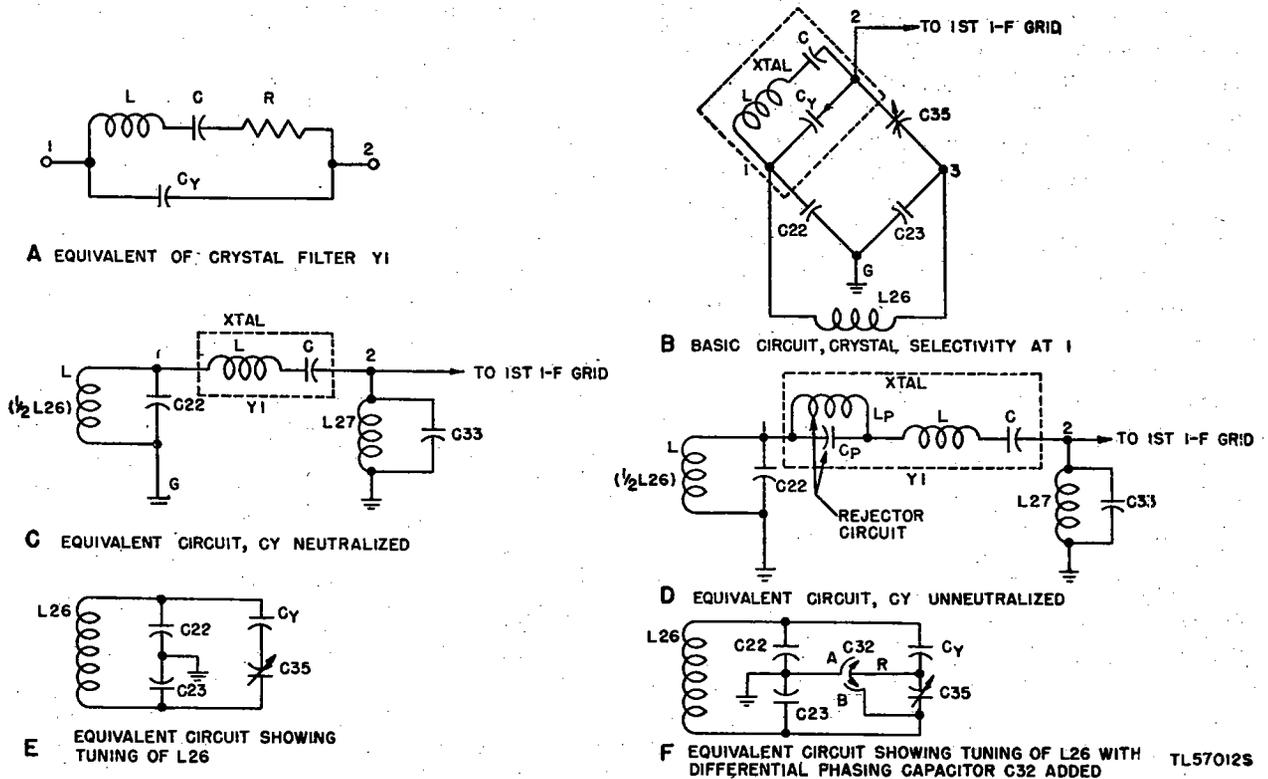

Figure 28. Radio Receiver BC-779-B, functional and equivalent diagrams of crystal filter circuit.
## 61. Crystal Filter (fig. 28)
a. EQUIVALENT CRYSTAL CIRCUIT. The equivalent electrical circuit of a crystal is shown in "A," figure 28. The circuit, and hence the crystal, are resonant at two frequencies: The frequency at which the reactance of L is equal to the reactance of C (series resonance), and the frequency at which the effective reactance of L-C (in series) is *inductive* and *equal* to the capacitive reactance of  $C_X$  (parallel resonance). At the series-resonant frequency the crystal acts as a low-impedance connection between 1 and 2. At the parallel-resonant frequency the crystal acts as a high impedance between 1 and 2.
b. BASIC FILTER CIRCUIT ("B," fig. 28). Capacitors C22 and C23 (100 mmF each) are connected in series across the secondary of i-f input transformer L26, and their junction is grounded to provide a midpoint connection in the resonant circuit L26-C22-C23. Consequently, the capacitor voltages are always of equal amplitude but 180° out of phase. Phasing capacitor C35 (1.5 to 5 mmF) is connected between 3 and 2, and the crystal is connected between 1 and 2.
c. NEUTRALIZATION OF  $C_X$ . Capacitors C22, C23, C35, and  $C_X$  (the capacity between the crystal holder plates) form a capacity bridge; the input is applied to 1 and 3, the output is taken from 2 and G. When capacitor C35 is adjusted so that its capacitance is equal to that of  $C_X$ , the voltage coupled from 3 through C35 to 2 is equal and opposite to the voltage coupled from 1 through  $C_X$  to 2. Under this condition  $C_X$  is neutralized and the crystal acts as a series-resonant circuit only ("C," fig. 28). Since the crystal is resonant at the intermediate frequency, there is (in effect) a direct connection between 1 and 2. As indicated in "C," figure 28, only the voltage across C22 (one-half the secondary voltage) is applied through the crystal to the grid circuit of the first i-f stage.
tance of L-C and the capacitive reactance of  $C_Y$ . For simplicity the parallel-resonant circuit is denoted as rejector circuit  $L_P C_P$  in "D," figure 28.  $L_P$  and  $C_P$  denote the effective inductance and capacitance at the parallel-resonant frequency. L and C indicate the effective inductance and capacitance of the crystal at the series-resonant frequency, in this case the 465-kc i.f. In other words, unless  $C_Y$  is neutralized, the crystal acts simultaneously as a parallel- and series-resonant circuit. The parallel-resonant circuit  $L_P C_P$  has no effect on the 465-kc i.f. but presents a high impedance to, and therefore rejects, the frequency to which  $L_P C_P$  is resonant. L and C present extremely low impedance to the 465-kc i-f signal voltage and high impedance to voltages at different frequencies. *With underneutralization the resonant frequency of  $L_P C_P$  is higher than 465 kc.*
f. CAPACITOR C32. Capacitor C35, in series with capacitance  $C_Y$ , is across L26 and affects its tuning ("E," fig. 28). To avoid the detuning effect and to enable shifting the rejection frequency to either side of the i.f., differential PHASING capacitor C32 ("F," fig. 28) is used in the radio receiver. Stator sections A and B are so arranged that, as rotor R is turned out of one stator into the other, the capacitance of the first *decreases* by the same amount that the capacitance of the second *increases*. Thus, whether the rotor is entirely engaged in stator A, is at a midpoint, or is entirely in stator B, the effective capacitance across A-B, and therefore across L26, remains constant. Assume that C32, the PHASING capacitor, is set at the arrow position of the PHASING control on the front panel and
(2) *CRYSTAL SELECTIVITY switch at 1.* When CRYSTAL SELECTIVITY switch SW7 is placed at 1, the short is removed from the crystal. If the secondary of L26 and the parallel-resonant grid circuit, L27-C33, are tuned to 465 kc, each is the equivalent of a high resistance in series with the equivalent series-resonant circuit of the crystal ("C," fig. 28). Consequently, the Q and therefore the selectivity of the series-resonant (crystal) filter circuit is reduced, and the bandwidth is several kilocycles wider than that of the crystal alone.